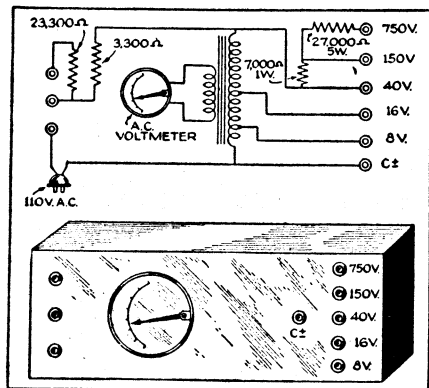

FIG. 12—Circuit for extending range of low-voltage A.C. voltmeters, as used in instrument pictured.
**SERVICE** Men who have old-style A.C. voltmeters with very low voltage, full-scale, such as 0-3 volts or 0-4 volts, find very little use for them in present day A.C. receivers. However, by the addition of a shop-made transformer, they may be made to read low, medium or high voltages. Such a transformer is herewith described and is sufficiently accurate for all set measurements, even up to 1,000 volts or more by the use of series resistors. See Fig. 12.